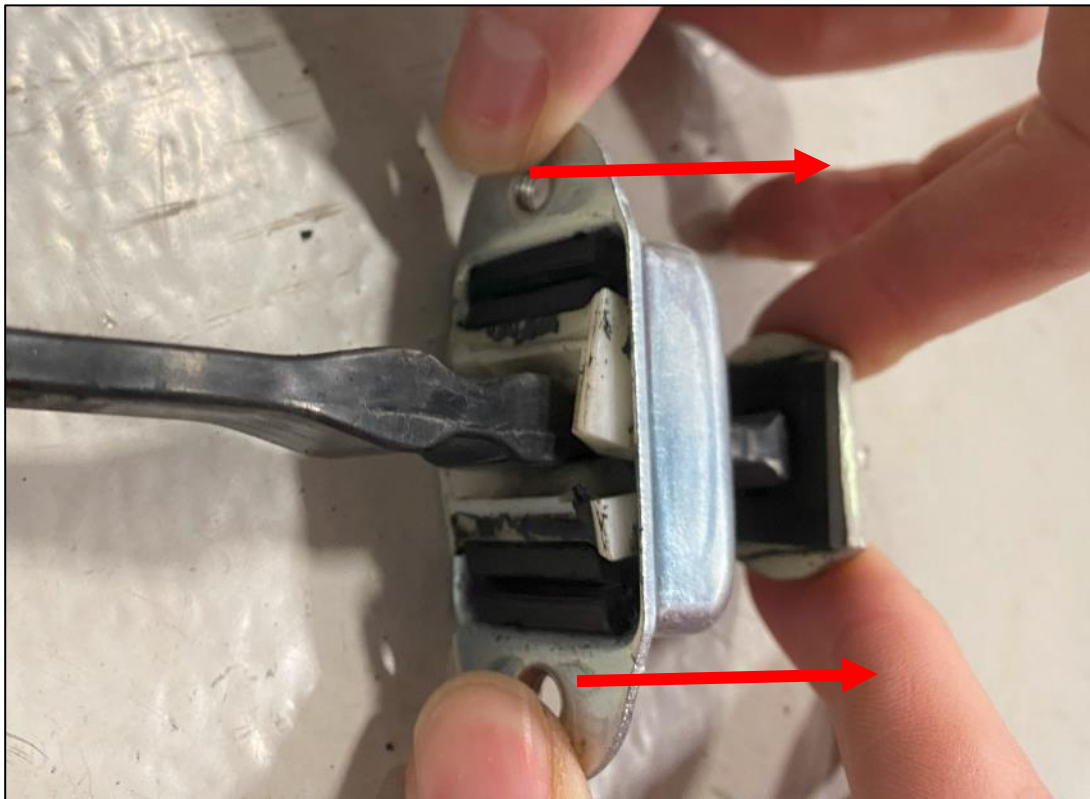

Figure 106
5. Push/pull the Silver Plate towards the back of the Check Link to remove the OE Door Stoppers. *Figure 106.*